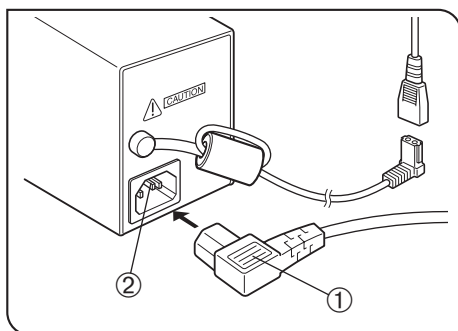

Fig. 54
Operation Using the TL4 Power Supply Unit (Fig. 54)
1. Insert the connector ① of the power cord firmly into the input connector ② of the TL4 (Fig. 54).